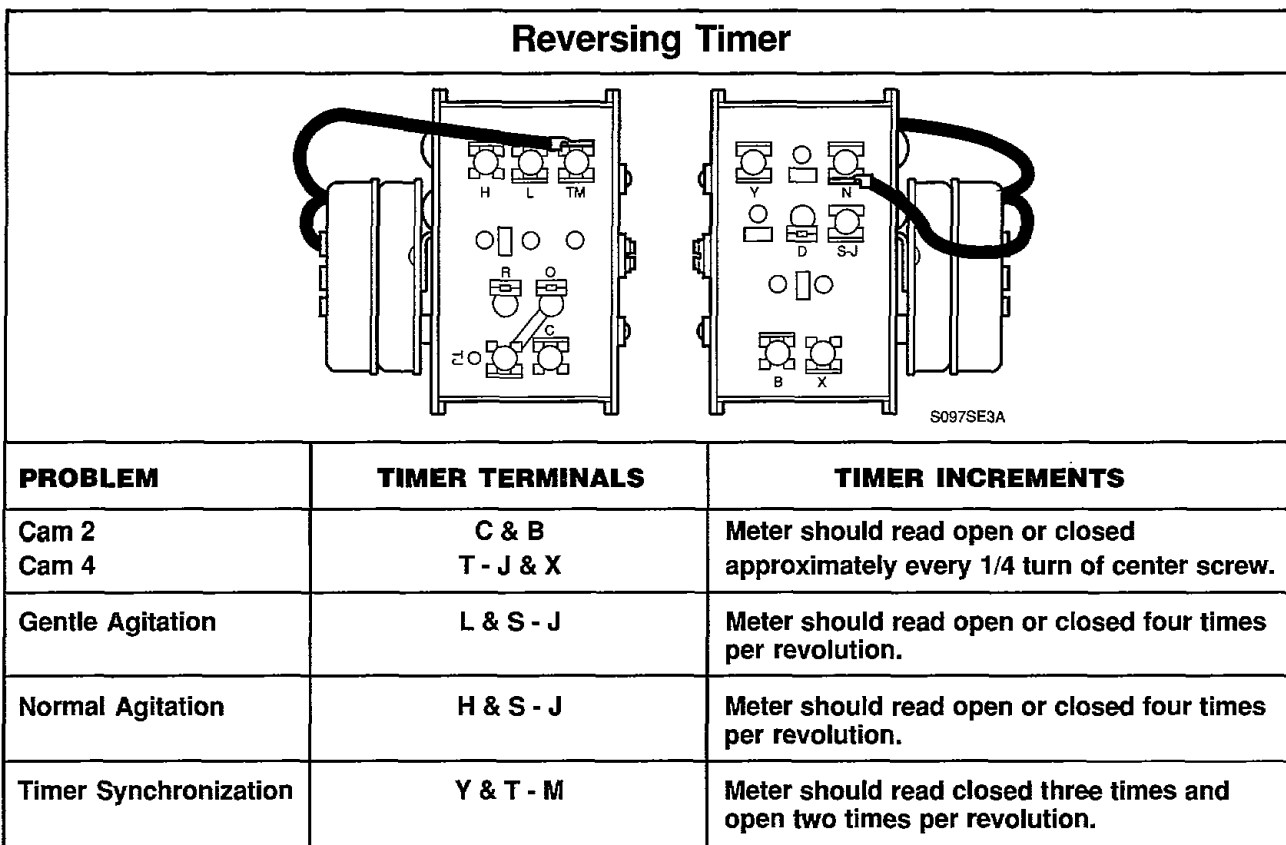

Figure 59
- i. Apply meter probes to timer terminals indicated in *Figure 59* for continuity check.